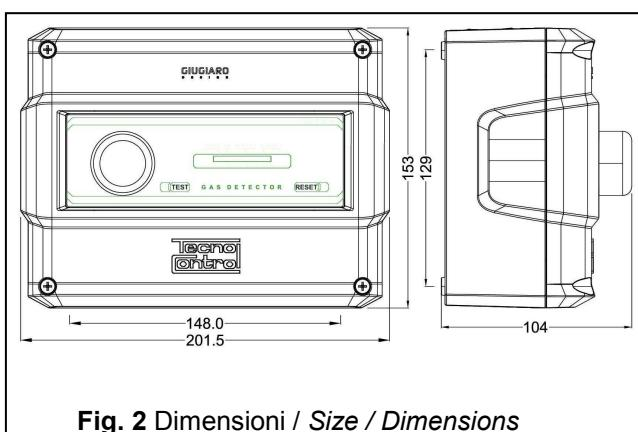

Fig. 2 Dimensioni / Size / Dimensions
**Mounting:** The Fig. 2 shows the instrument size. It has to be wall-mounted by four screw anchors. The **normally closed manually resetting valve** for the gas cut-off should be installed outside the room in a clearly indicated position and should be protected from rain.
**Fixation:** En figure 2 sont indiquées les dimensions de la centrale. La fixation s'effectue par des 4 vis et chevilles.